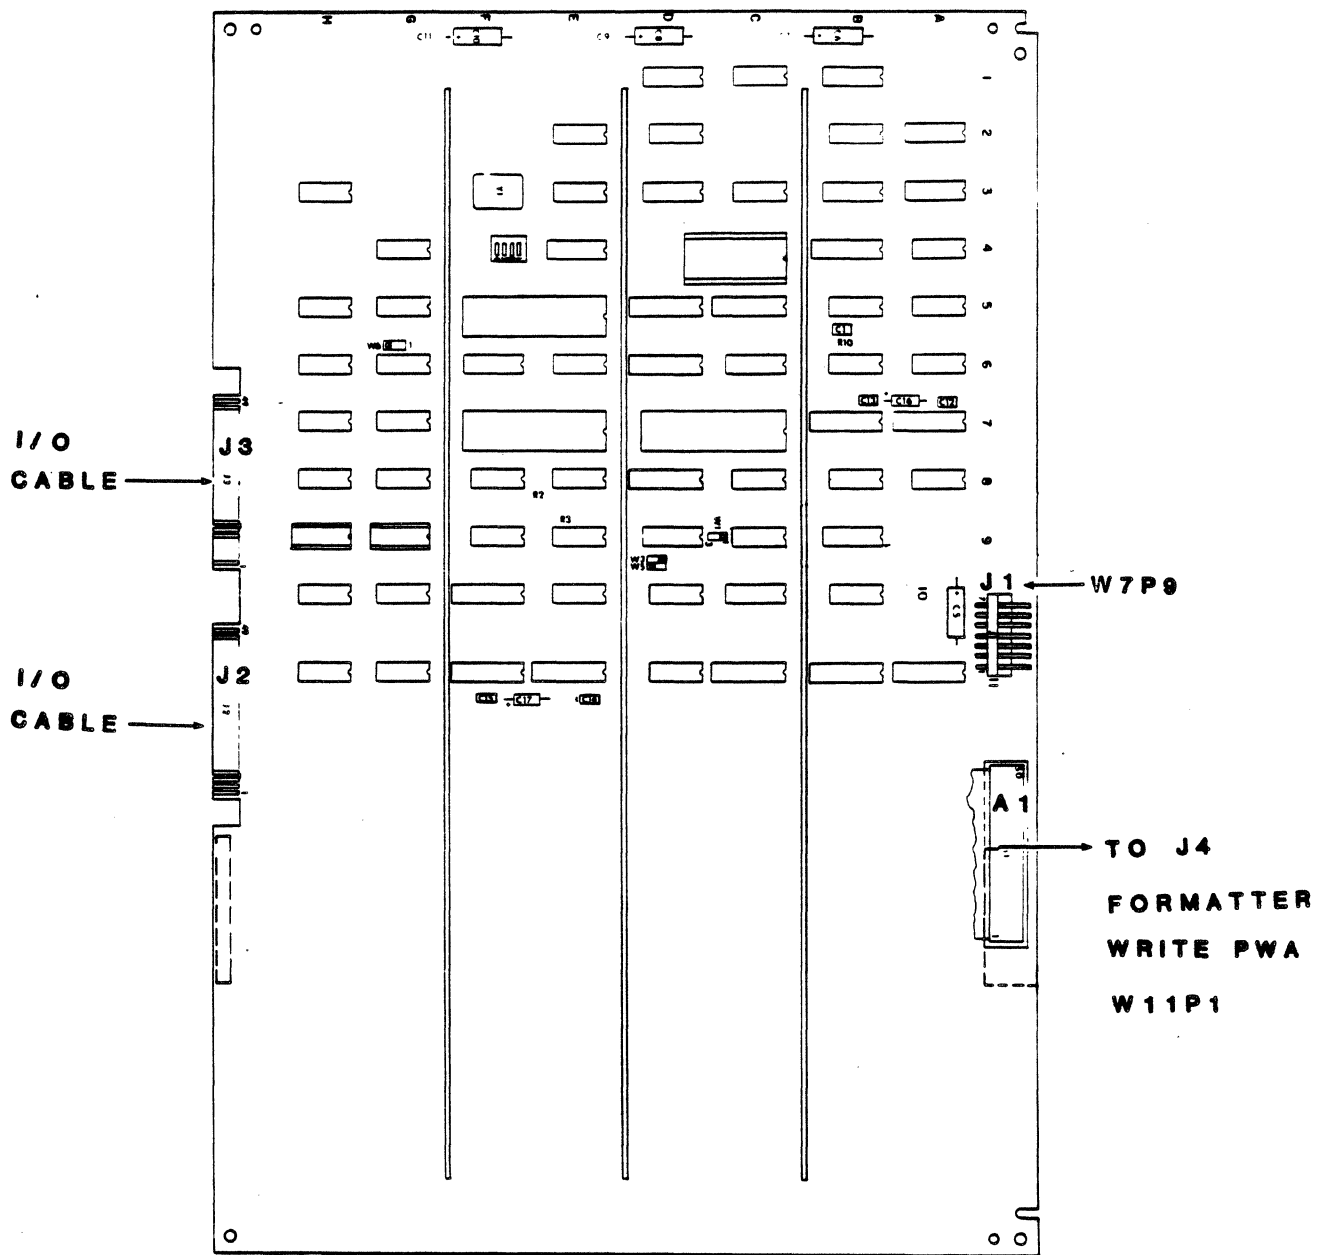

Figure 6-37. Interface PWA Connectors
3. Disconnect connectors W7P9 and I/O cables at J2 and J3 from the interface PWA. Disconnect connector W11P1 from J4 on the formatter write PWA (figure 6-37).